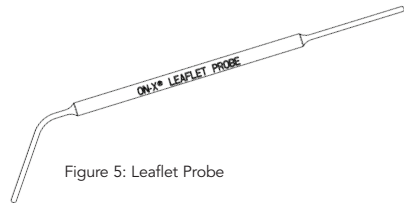

Figure 5: Leaflet Probe
**Leaflet Probe** - The leaflet probe (Figure 5) is a flexible rod with tapered ends. The leaflet probe may be used to gently move the leaflets to verify that they open and close freely.